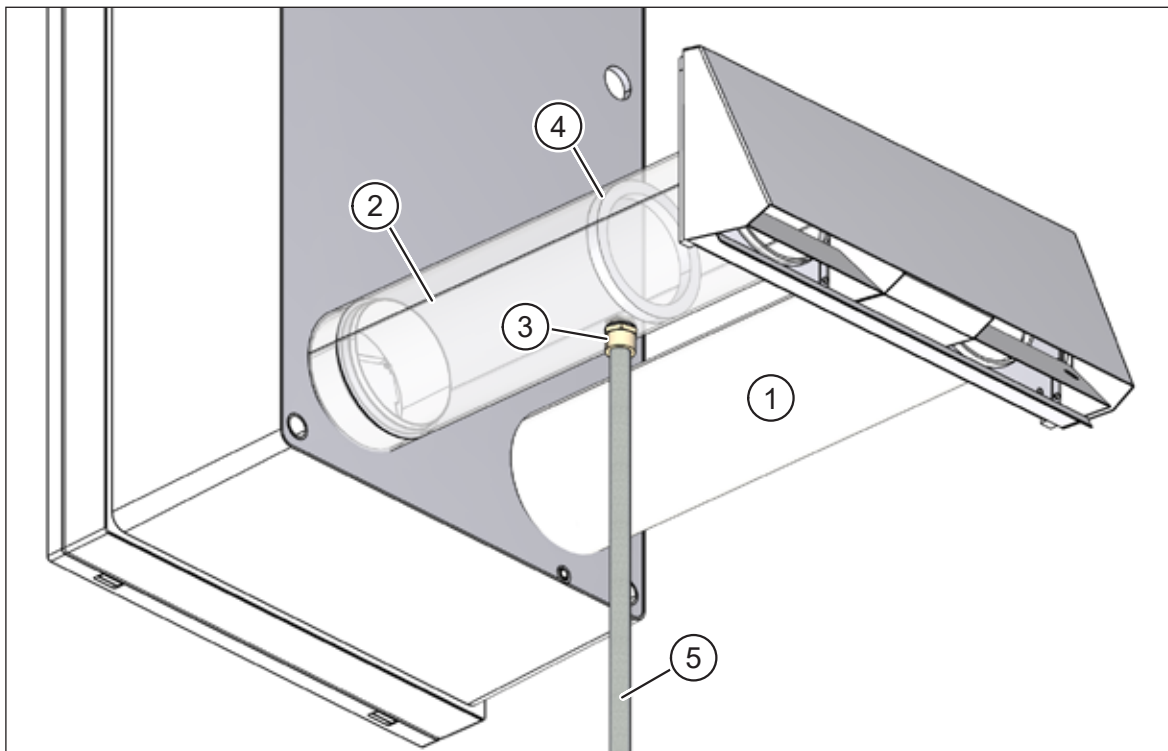

Fig. 34: Condensate drain on the exhaust air pipe
- Outdoor air pipe, DN 100, 0.5 m (item 1 in Fig. 34)
- Exhaust air pipe, DN 100, 0.5 m (item 2 in Fig. 34), with 1/2" male thread connection (item 3 in Fig. 34) and barrier (item 4 in Fig. 34) for retaining the condensate.
- In cold regions, protect the condensate drain pipe (item 5 in Fig. 34) against frost, e.g. by running it behind the facade insulation.